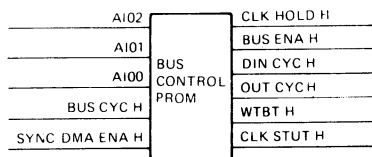

Figure 13-6 Bus Control PROM
**MIB12,9,8/Address-Input-Output (AIO) Codes** — These three control lines along with two other signals, BUS CYC H and SYNC/DMA ENA H, are fed into the bus control PROM as shown in Figure 13-6. The PROM decodes them to determine the type of microcycle currently executing within the MOS chips. The PROM outputs various control signals which perform the following functions.